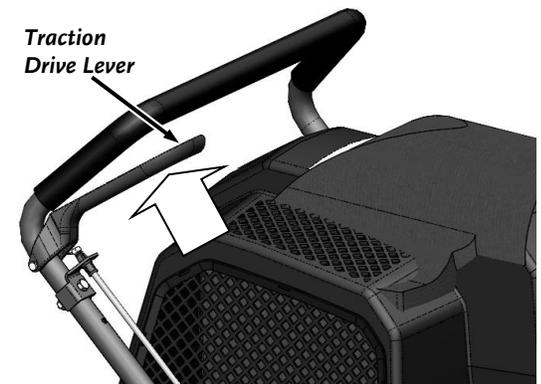

Figure 24
1. Start the machine and slowly pull the Self Propel Drive Lever toward the Handlebar Grip and hold for maximum speed as needed (**Figure 24**).
1. Fully release the Drive Lever (**Figure 24**).